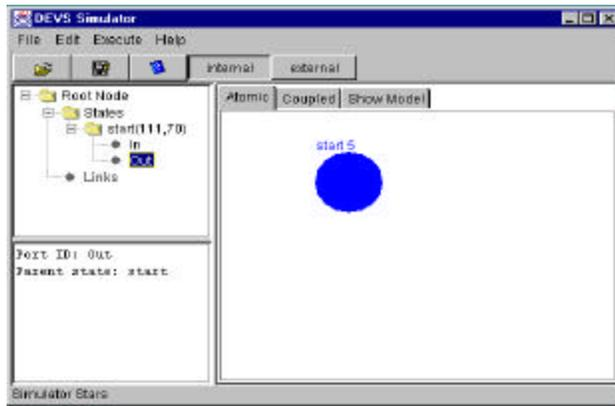

Fig 5
- Click on the nodes of the tree in the information space and expand the tree. The detailed information of the model can be shown like Fig 5.